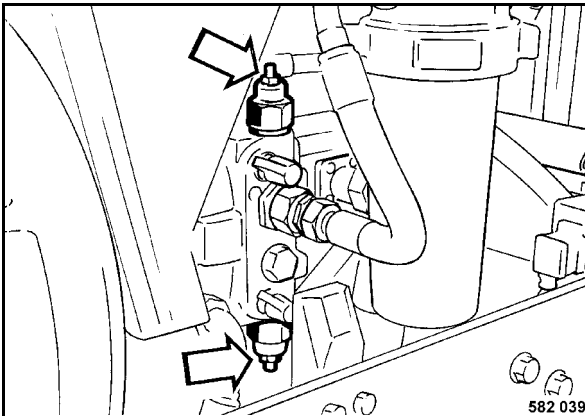

Fig. 48
- Slacken the counter nuts on both high pressure relief valves (Fig. 48) to create a by-pass around the travel pump.